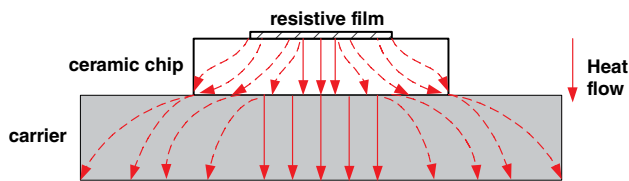
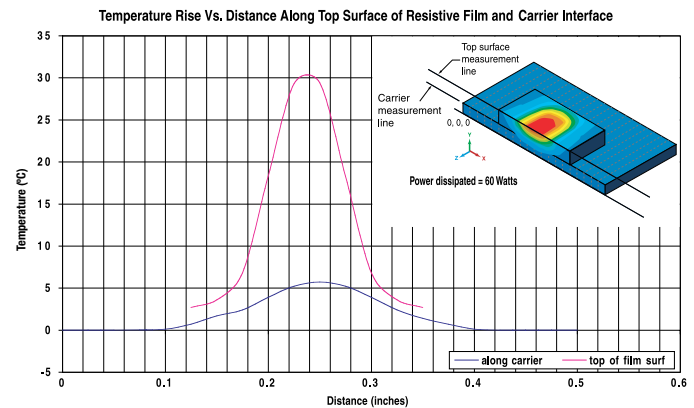
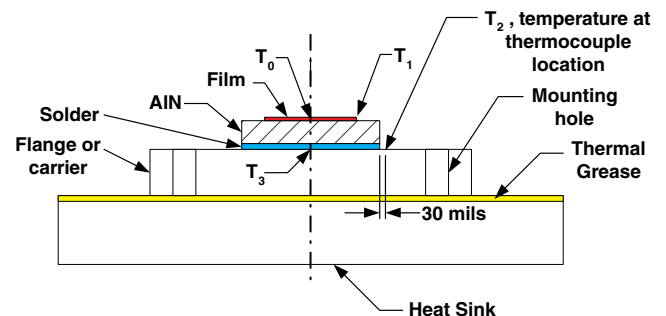

Figure 10. Heat flow around a mounted chip resistor
Figure 11: Computer simulation of isotherms around mounted chip resistor
Figure 12: Temperatures at a number of points on and around a ground plane-mounted resistive chip
Before we can do a thermal design, we must first decide on exactly what we shall mean by “power rating” for a chip device. **Figure 10** illustrates the heat flow around a mounted chip resistor. The resistive film, assumed to have constant power dissipation over its surface, behaves as an isoflux boundary, i.e., a source of uniform heat flux, rather than the isothermal boundary used in the derivation of equation (2). Were the film to completely cover the chip, the isoflux case would approach the isothermal case, but absent that condition the heat spreads out as shown.
The thermal resistance between two points is defined as the temperature difference between those points divided by the heat flow (typical units are degrees Centigrade/Watt). It is analogous to electrical resistance, with temperature corresponding to voltage and heat flux to current. **Figure 10** indicates that there is vertical as well as lateral heat flow in both the ceramic chip and the carrier it is mounted on. This implies that the system must be represented as a lattice network of thermal resistances rather than a single thermal resistance.
(The latter can characterize only the kind of one-dimensional heat flow assumed for equation (2).) **Stated alternately, the temperature will vary laterally along the film and, also, laterally along the mounting surface.** This is illustrated in **Figure 11**, which was made using a “Finite Element Method” (FEM) computer simulation. In actuality, a three-dimensional latticework of resistors is needed to describe a mounted resistive chip, and there is temperature variation along all three dimensions.
The above considerations bear importantly on how a chip is designed and characterized for power handling and exactly how confirming measurements are made. **Figure 12** indicates temperatures at a number of points on and around a mounted chip: (a) T_0 , at the film centroid; (b) T_1 , at the film edge or corner; (c) T_3 , on the mounting surface directly under the film centroid; and (d) T_2 , on the mounting surface 30 mils away from the chip edge. We can make the following qualitative observations:
An ideal heat sink has infinite thermal conductivity and, because of this, the infinite thermal conductivity, T_2 would equal T_3 in Fig. 12. From Fig. 10 and Fig. 11, this clearly is not the case for any real mounting surface; in fact, $T_3 > T_2$.
One strategy for defining power rating might be to measure T_3 directly – or deduce it from a measurement of T_2 and a computer FEM model – and then specify performance as if an ideal heat sink were held everywhere at that temperature. By slicing a mounted resistor in half along its longitudinal axis – in **Figure 12**, perpendicular to the plane of the paper, down the centerline – we were able to take advantage of the lateral heat-flow symmetry to measure T_2 and T_3 for chips of several sizes and input powers. (The slice plane is an adiabatic boundary, i.e., no heat flows across it.) Results of such measurements are presented in **Table 2**. All chips were 40 mils thick and all measurements were made on a silver-plated high-conductivity copper mounting surface (see the table for more information).
- Next, since our carrier does not have infinite thermal conductivity, we must specify the exact location – **T_2 in Figure 12 – at which we hold the ambient temperature constant. Typically, we choose this as 30 mils from the chip edge along its lateral centerline** – an arbitrary, convenient spot at which to solder a small thermocouple.
Let us assume a perfectly conducting mounting surface in **Figure 10**, i.e., a surface along which there can be no lateral temperature variation. Then to calculate the total thermal resistance from the film to the mounting surface, one would compute the one-dimensional resistance of the chip with the film occupying its entire surface and then add the constriction resistance to account for the lateral constriction of the heatflow. (Note, from the top down the heat spreads and so the term “spreading resistance” is frequently used, but from the bottom up the heat flow constricts.) There are several expressions available in the literature for the constriction resistance of heat sources mounted on rectangular channels (“flux tubes”) with adiabatic walls, i.e., heat-producing films on chips that have no appreciable heat conduction perpendicular to their sidewalls. One formula that yields constriction resistance based on an average film temperature is⁵.